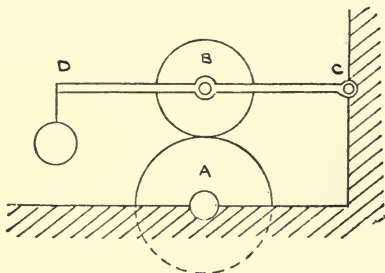

Fig. 2.
3. A solid cylinder  $A$  of mass 360 lbs., 12 inches in diameter, turns freely in fixed bearings (see Fig. 2). A solid cylinder  $B$  of mass 160 lbs., 8 inches in diameter, turns freely in bearings carried on the lever  $CD$  hinged at  $C$ . When the wheel  $A$  is making 800 revs. per minute the lever  $CD$  is depressed and the wheel  $B$  which is at rest is brought into contact with  $A$ . Determine the revolutions of the wheels when the speed has again become constant. If the pressure between the wheels is 200 lbs. and the coefficient of friction is 0.25, determine how long it takes to effect the equalizing process.